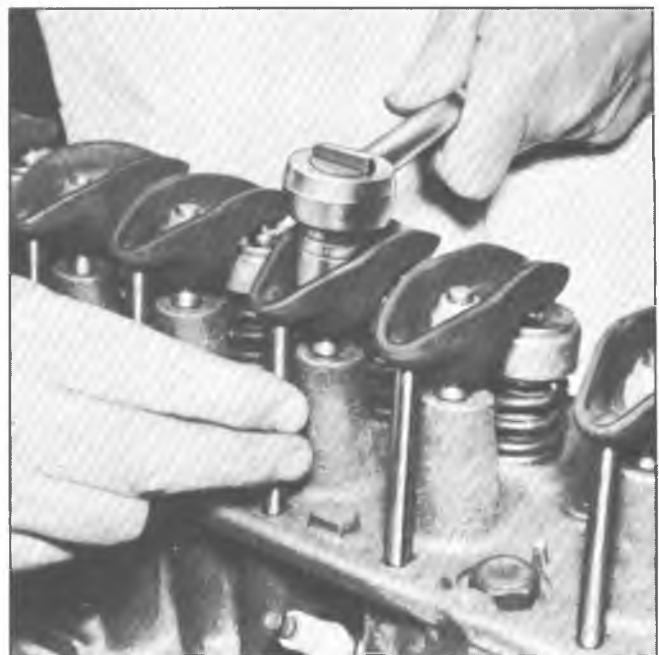

Fig. 21—Valve Adjustment (L6 Engine)
- c. Back out adjusting nut until lash is felt at the push rod then turn in adjusting nut until all lash is removed. This can be determined by checking push rod end play while turning adjusting nut (fig. 21). When play has been removed, turn adjusting nut in one full additional turn (to center lifter plunger).